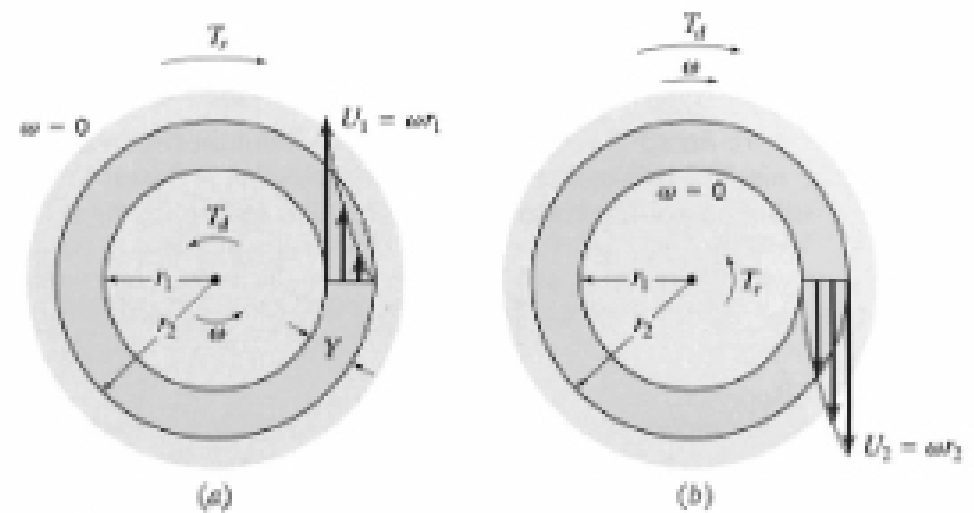

Figure 2.6
- See Figure 2.6, p. 32, for sketch of journal bearing